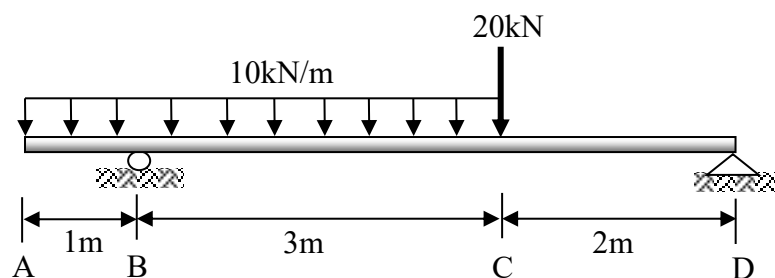

Figure B1(a)/ Rajah B1(a)
- (a) An overhanging beam is loaded as shown in Figure B1(a). Identify the reaction force at each support B and D.